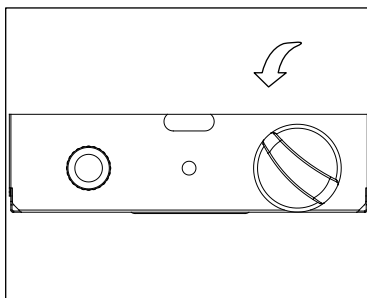

Figure 1
3. Push control knob in and rotate to pilot position or until the knob stops (Figure 1).